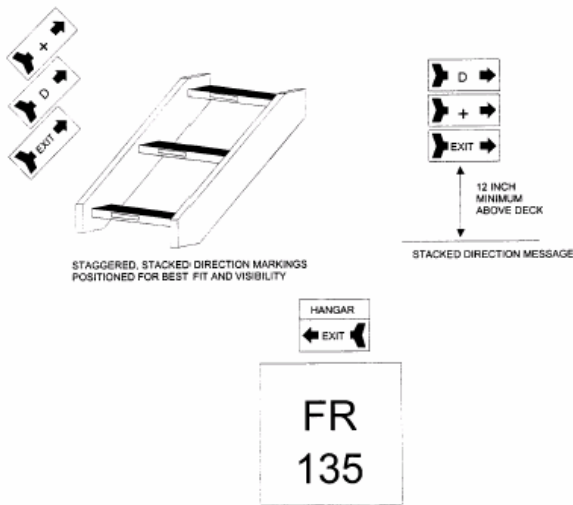

Figure 1
b. EXIT signs with arrows are to be located within 5 feet of each access (door, hatch) to a compartment, except where the access opens directly to weather. The arrow direction is to indicate nearest egress route to weather area (i.e., main deck, hangar, and flight deck). Subsequent EXIT signs and arrows are to be no more than 15 feet apart within the same compartment and along the bulkhead at each ladder. Arrows may be angled to point up or down ladders. Frame and Direction markings are depicted in Figure 1.